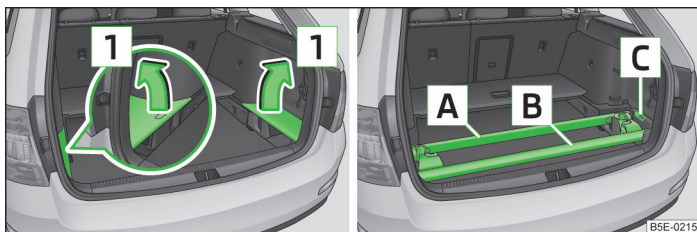

Fig. 90 Removing the side covers/stowing roof racks properly
- Remove the side covers of the luggage compartment in the direction of the arrow **1** » Fig. 90.
- Replace the side trims of the luggage compartment in the opposite direction of the arrow **1** » Fig. 90.
- The keys to the roof rack can be stowed in the recess **C** » Fig. 90.